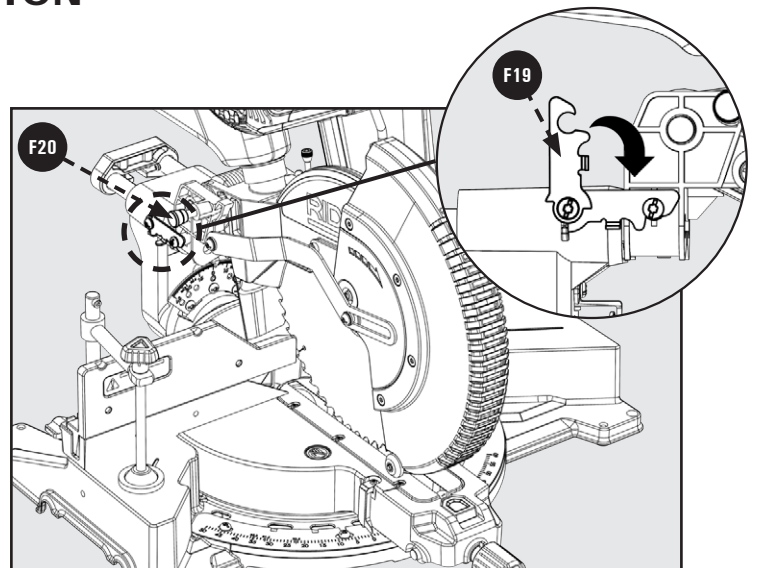

Figure 20
See in Figure 20.
1. Push saw head to the fully retracted position then swing the slide lock lever down as shown in Figure 20.